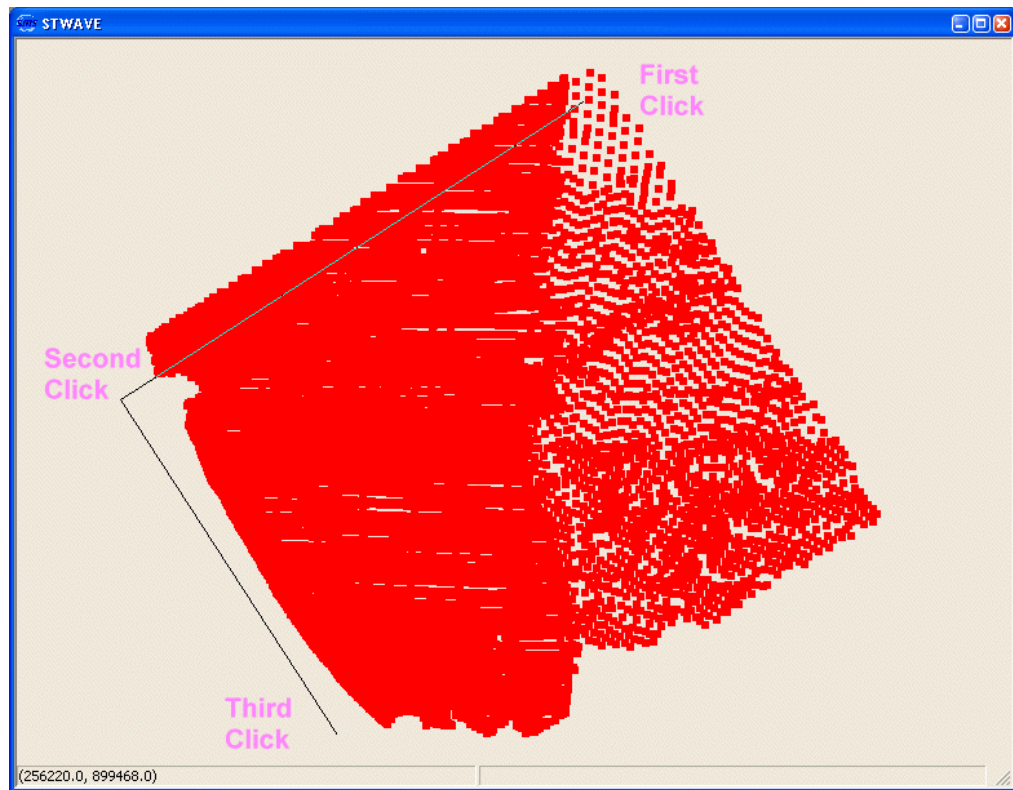

Figure 24-2. Creating the STWAVE Grid Frame.
2. Create a grid frame by clicking first where the grid origin should be, then at the start of the shoreline, and finally at the shoreline end, as in Figure 24-2.